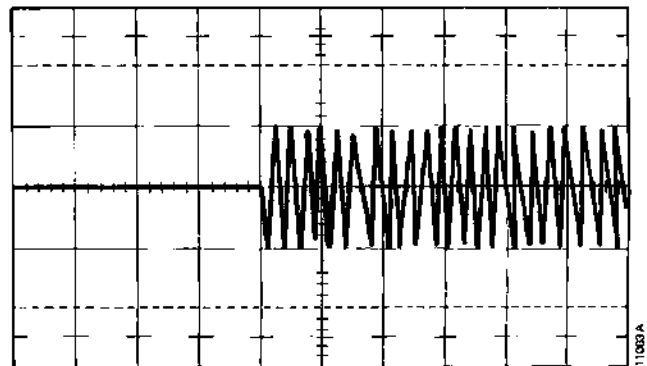

Figure 4-8. Index Pulse with Hard-Sector Option Timing Waveform
9. Verify that the signal burst (on the alignment diskette) occurs 200 ± 50 microseconds after the start of sweep (index pulse). See Figure 4-8.